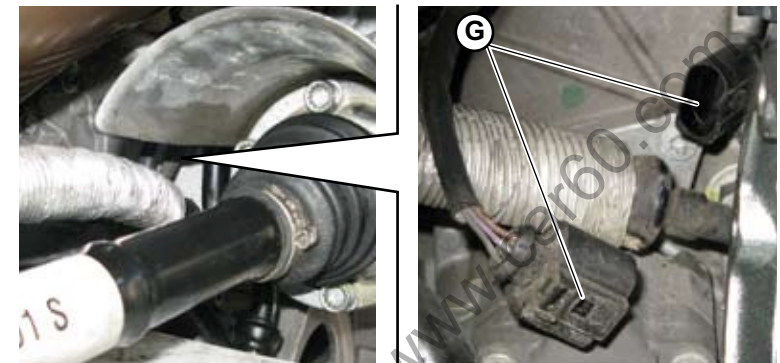

Fig.5
7. Connect the speed sensor cable connector (**G-Fig.5**).